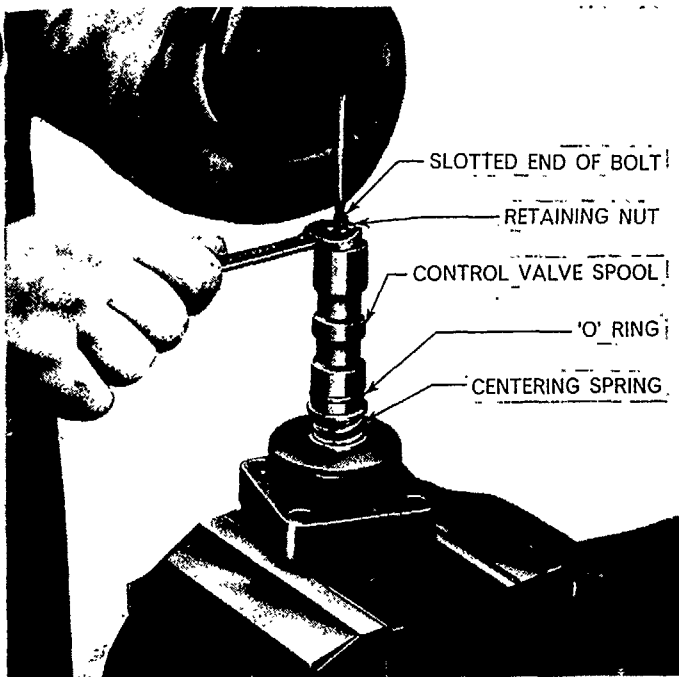

Figure 53
6. Using a screwdriver in the slotted end of the control valve spool centre bolt to prevent it from turning, remove the retaining nut and washer, Figure 53. Remove the spool from the bolt together with the spring and washers.